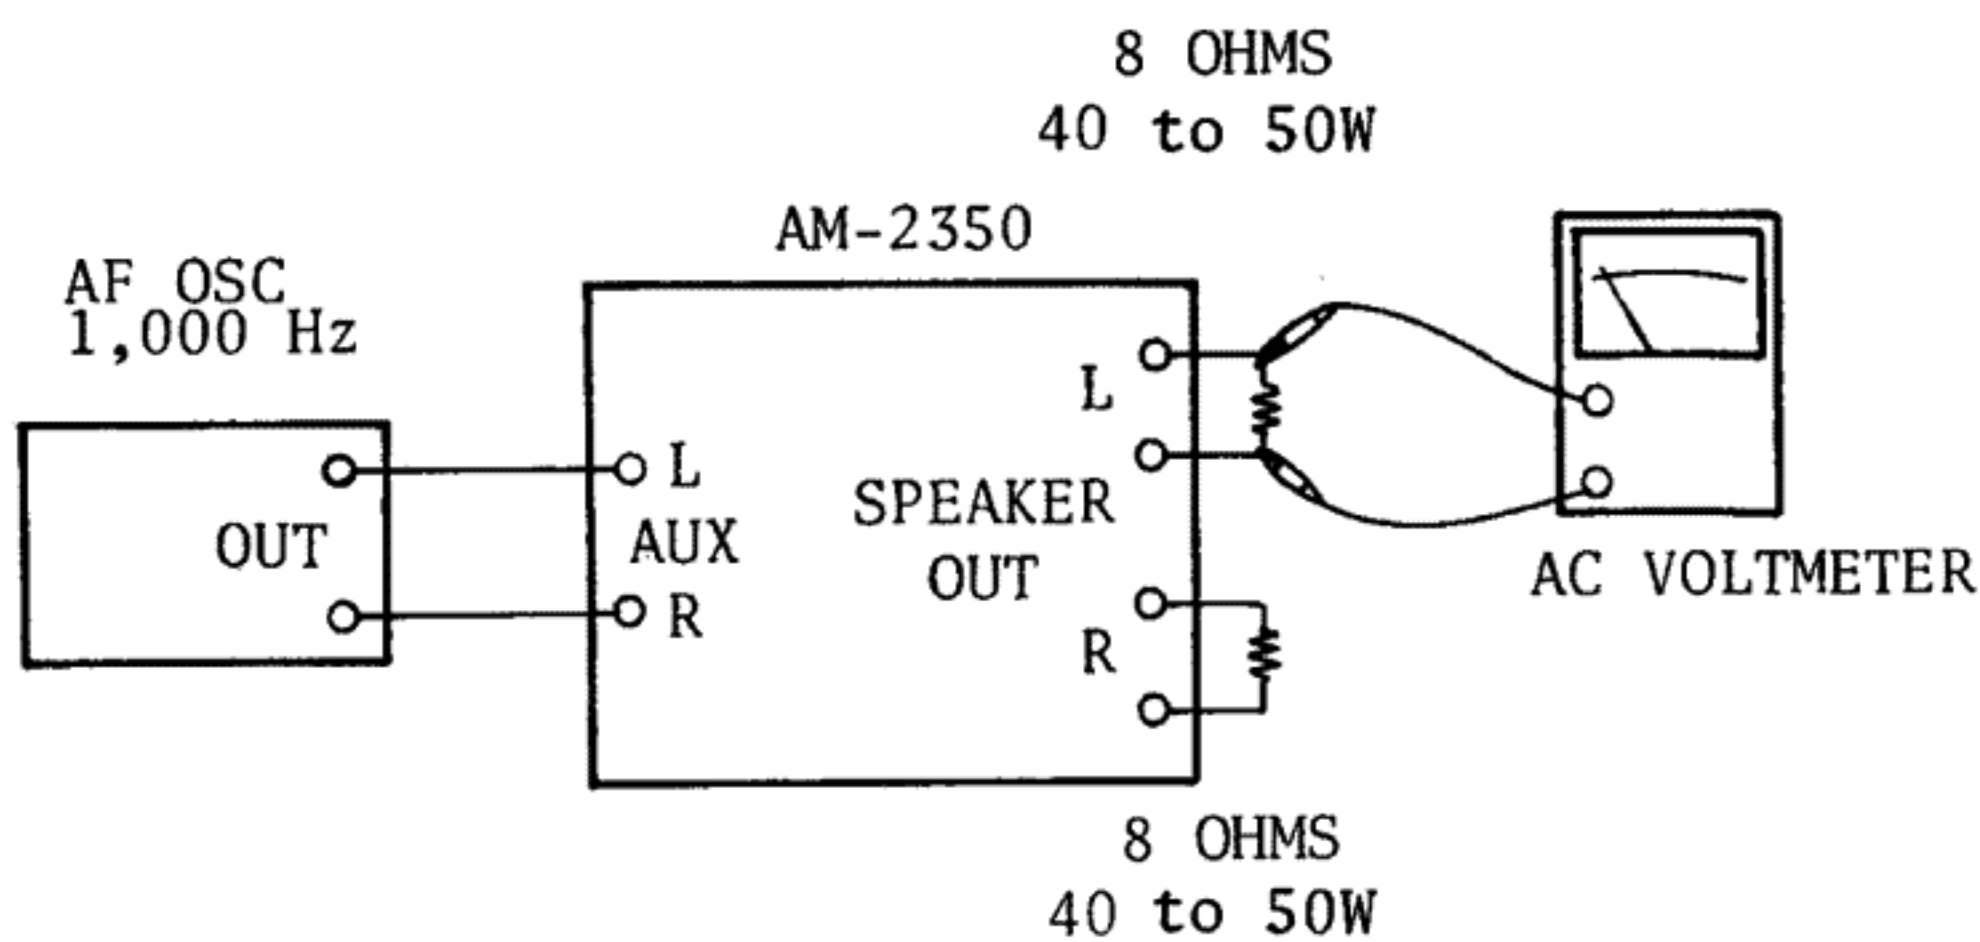

Fig. 6 Instrument Connection.
1. Connect an AF oscillator to the AUX JACKS on the rear panel of the AM-2350 as shown in Fig. 6.